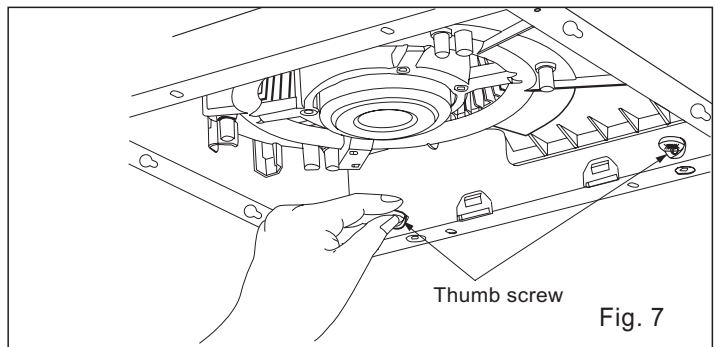

Fig. 7
8. Secure fan body to adaptor using two thumb screws.(Fig.7)
9. Mount the fan body with thumb screw (on the right side of bottom of the adaptor) as shown in Fig.7.
(13) Mount the fan body with thumb screw (on the right side of bottom of the adaptor) as shown in Fig.7 of page 6.